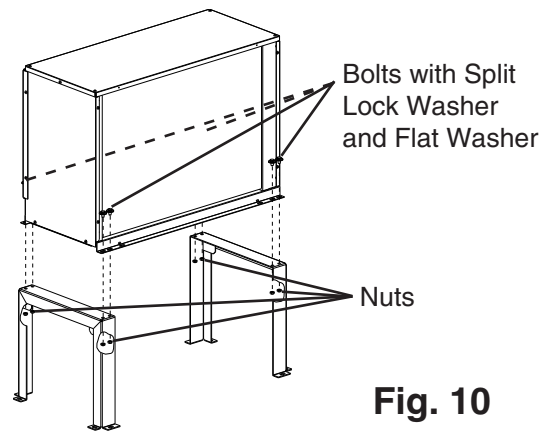

Fig. 10
- 1) Secure the legs to the remote condenser unit with the 8 bolts and nuts provided. See Fig. 10.